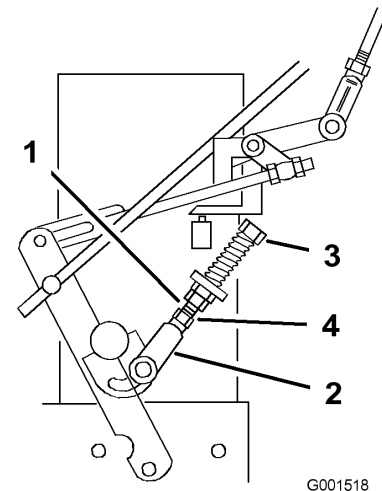

Figure 36
9. If the wheel turns while holding the drive lever in neutral, the neutral control linkages need to be adjusted (Figure 36). If wheel stops then go to step 12.
10. Loosen the nut against the neutral control linkage yoke (Figure 36).
pulled against the neutral spring (neutral position) (Figure 36).
12. Turn the adjusting bolt approximately 1/4 turn clockwise if the wheel is turning in reverse or turn the bolt approximately 1/4 turn counter-clockwise if the wheel is turning forward (Figure 36).